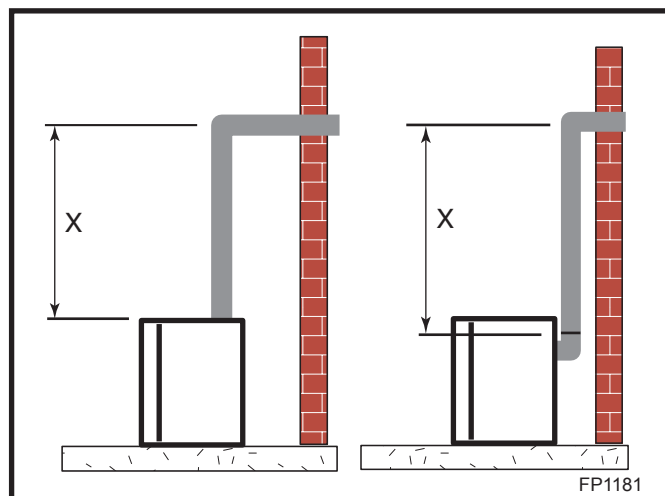

Fig. 33 Vertical height requirements.
Place fireplace into position. Measure the vertical height (X) required from the base of the flue collars to the center of the wall opening. (Fig. 33)